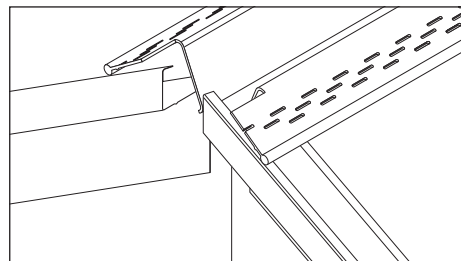

Fig. 7 – Slate dry verges
- 12 For the Marley Eternit Slate dry verge, batten section should be cut as shown (Fig. 7) to allow free movement of verge section under top flange.